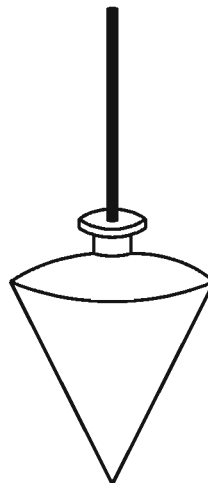

Fig. 6.5 PLUMB BOB
6. **PLUMB BOB:** It is used while measuring distances on sloping ground and transfers the point to the ground by suspending the plumb bob. It is made of steel in a conical shape with a thread connected at the centre. It is generally used for centering. Fig 6.5.